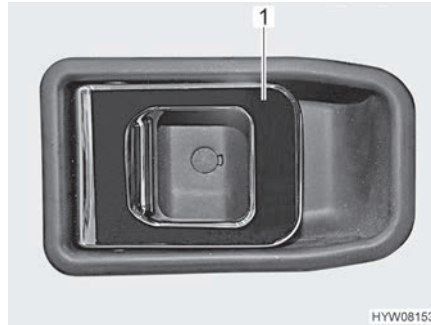

Fig. 33 Door lock (driver's door, inside)
- Opening:* ■ Pull on the handle (Fig. 33,1). The door lock is unlatched or opened.
- Locking:* ■ Push the handle (Fig. 33,1). The door lock is locked.